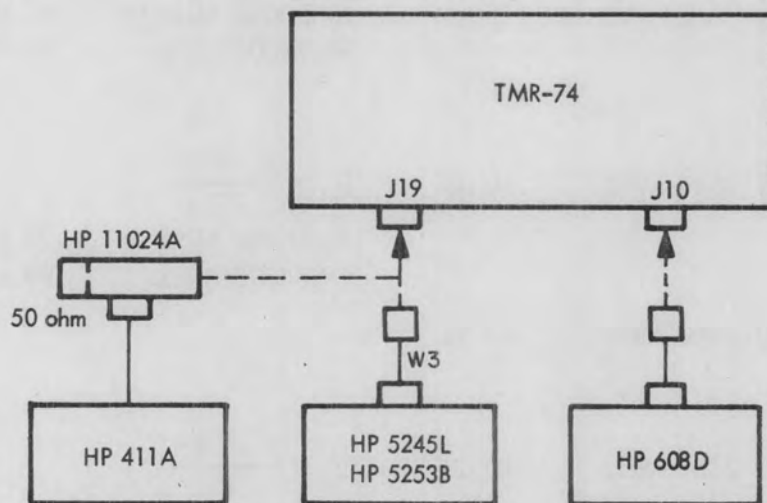

Figure 5-4. Equipment Setup for Second LO Test
- a. Connect equipment as shown in figure 5-4. Set controls as follows: